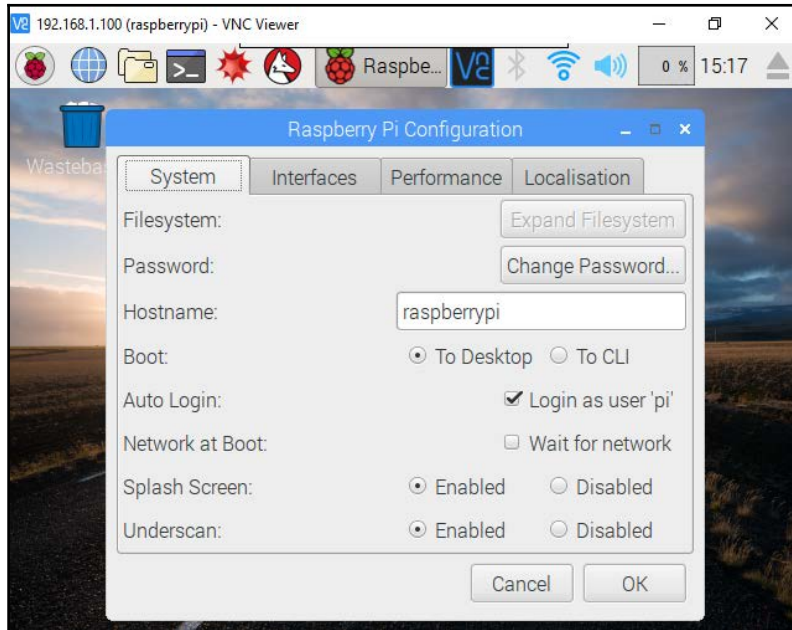

Figure 2.8
12. In the **Raspberry Pi Configuration** window, click on the **System** tab and provide a **Hostname**, **Password**, and **Username** as shown in *Figure 2.8*: